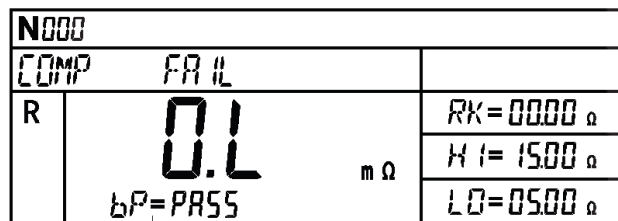

Fig.4-3 Interface of Comparison Selection function
- Press "ENTER/SAVE" to save the setting and switch to next parameter. Press "ESC" to discard changes and return to Comparison function mode (fig.4-3).
- As soon as all parameters are well configured and saved, press "ESC" to complete configuration and return to Comparison function mode (fig.4-3).